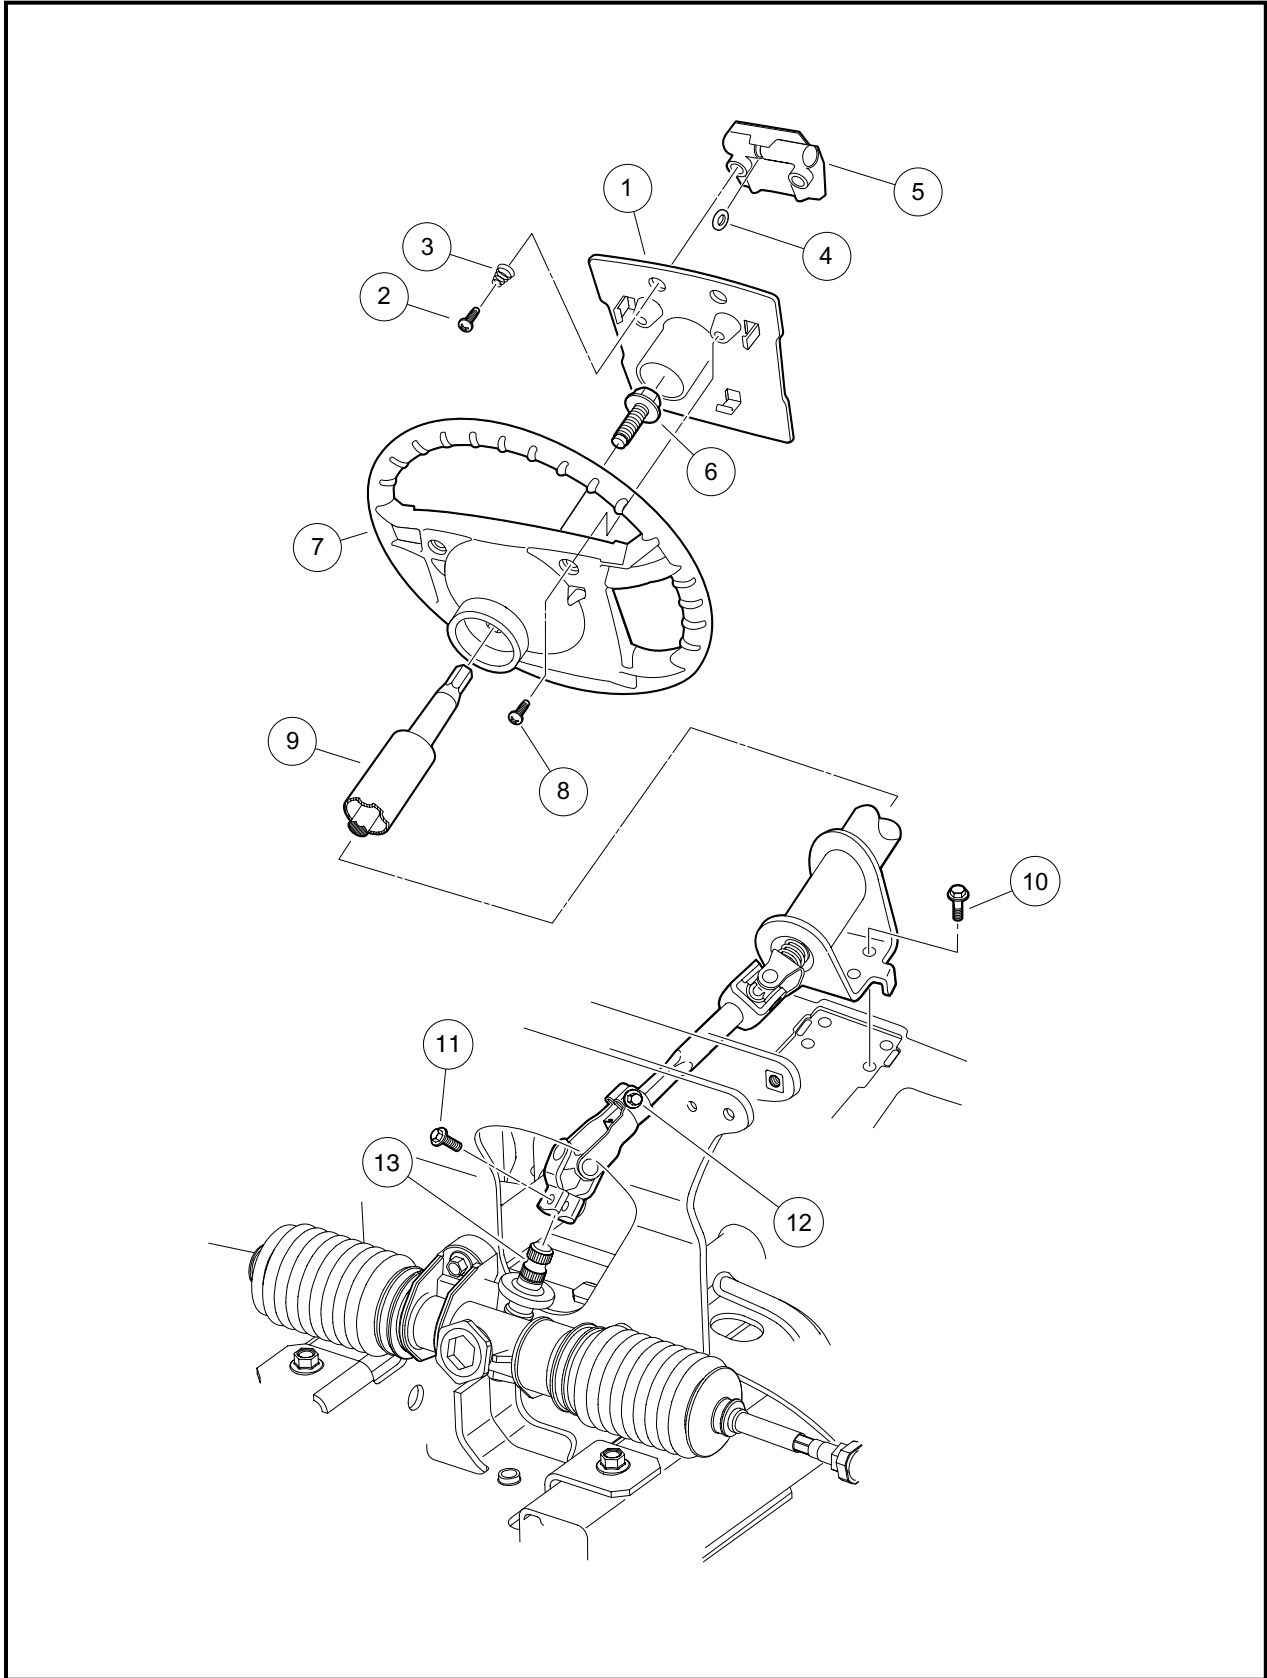

Figure 7-3 Steering Column
2. Remove the two mounting screws (8) and plate (1) (**Figure 7-3, Page 7-3**).
3. Match mark the steering wheel (7) and steering column shaft (9) so when the steering wheel is removed it can be placed back in exactly the same position on steering column shaft.
4. Loosen the steering wheel bolt (6) and back it off approximately 1/4 inch (6 mm). Do not remove the bolt.
- 5.6. Remove the steering wheel bolt (6) and the steering wheel (7) from the steering column (9) (Figure 7-3, Page 7-3).
1. Install the steering wheel (7) on the steering column shaft (9). Be sure to align the match marks placed on the wheel and steering column in step 3 above (Figure 7-3, Page 7-3).
2. Install the steering wheel bolt (6) and tighten to 13 ft-lb (17.6 N·m).
3. Install the scorecard plate (1) and plate mounting screws (8) (Figure 7-3, Page 7-3). Tighten screws to 16 in-lb (1.8 N·m).
4. Loosen the bolt (11), that attaches the steering column universal joint to the stud on the steering gear **(Figure 7-3, Page 7-3)**.
5. Remove the four bolts (10) that attach the steering column to the frame.
2. Insert the end of the steering column with the universal joint through the front underbody. Position universal joint over splined stud on the steering gear. Leave bolt (11) loose until steering column is mounted to frame in step 3 **(Figure 7-3, Page 7-3)**.
3. Align the holes in the steering column mounting bracket with holes in the vehicle frame. Secure column to frame with four bolts (10). Tighten bolts to 18.4 ft-lb (25 N·m).
4. Tighten universal joint bolt (11) to 18.4 ft-lb (25 N·m). Verify bolt (12) torque is 18.4 ft-lb (25 N·m).
2. Align the flat portion of the shaft (13) spline with the bolt hole in the upper universal joint and then slide the shaft into the universal joint. Install the bolt and tighten to 18.4 ft-lb (25 N·m) (**Figure 7-3, Page 7-3**).